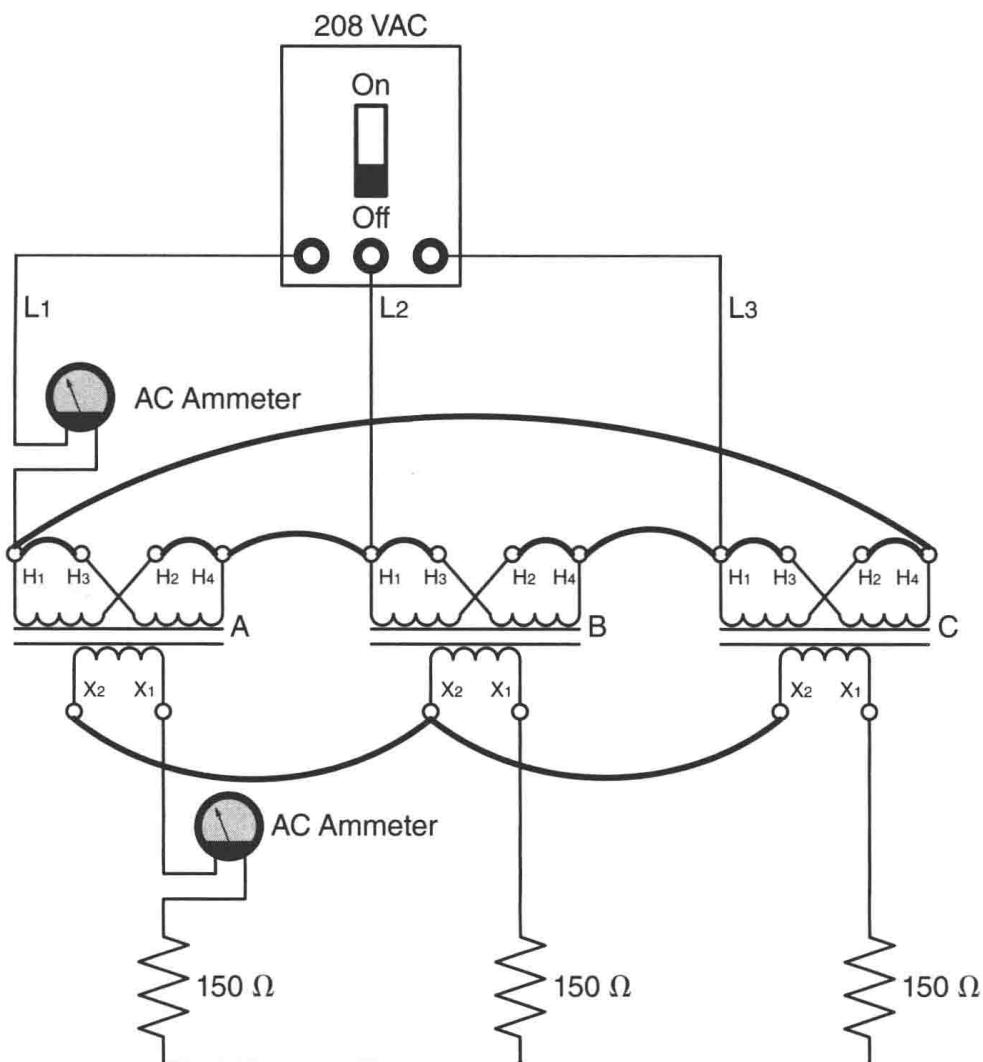

Figure 24-17 Adding load to the connection.
9. Connect the circuit shown in Figure 24-17. In this circuit, three 150-ohm resistors have been connected to form a wye load. A wye connection can be readily identified because one end of each load is connected together to form a center point.